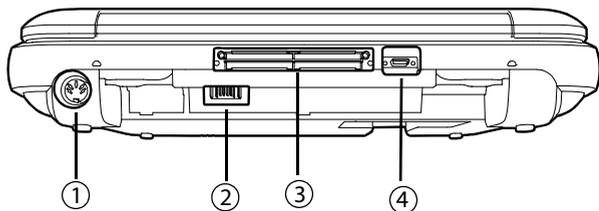

Figure 2-2 Back of the SonoSite Edge II Ultrasound System
- 1** Connect the DC power cable from the power supply to the connector on the system. Refer to **Figure 2-2** on page 2-5.